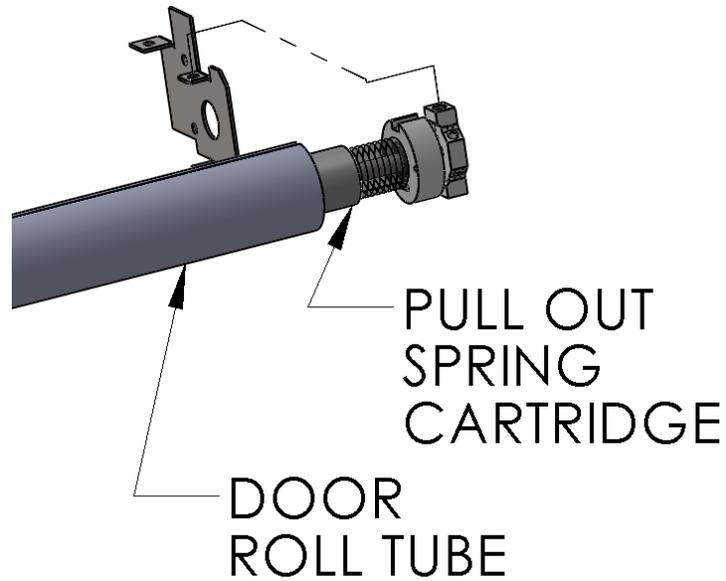

Figure 3 Remove Spring Cartridge Assembly
5. While supporting the weight of the door, pull the Door/Roll Tube forward, away from the jamb. (Figure 3 Remove Spring Cartridge Assembly)
8. Extract the one-piece Spring Cartridge from the Roll Tube by pulling on the shaft. (Figure 3 Remove Spring Cartridge Assembly)